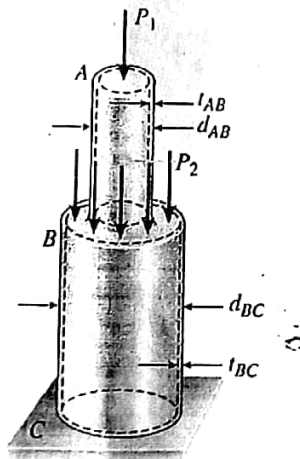

Fig. q 1
- a) A hollow circular post ABC (fig. q 1) supports a load $P_1 = 7.5$ kN acting at the top. A second load P_2 is uniformly distributed around the cap plate at B. The diameters and thicknesses of the upper and lower parts of the post are $d_{AB} = 32$ mm, $t_{AB} = 12$ mm, $d_{BC} = 57$ mm, and $t_{BC} = 9$ mm, respectively.
- b) In the hollow pipe ABC (fig. q 1) load $P_1 = 118$ kN, load $P_2 = 98$ kN and modulus of elasticity is 96 GPa (the pipe dimensions remaining the same as in part a above) If the wall thickness of pipe BC increases by 5×10^{-3} mm when both loads are fully applied,